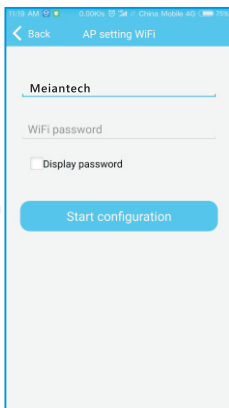
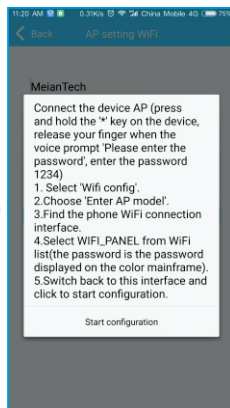

Fig. 5-12
Fig. 5-13
Step 2: Enter the available WiFi name and password in the hotspot setting WiFi interface (Fig. 5-12), click to start configuration, and the pop-up window prompts the operation steps. (Fig. 5-13)